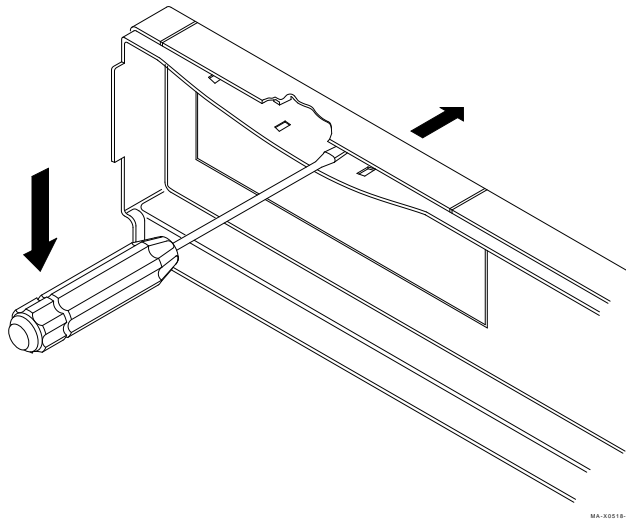

Figure 2-6 Separating the Bezel Insert from the Front Bezel
2. Separate the blank bezel insert from the front bezel (Figure 2-6).